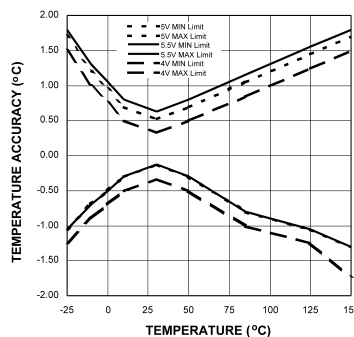
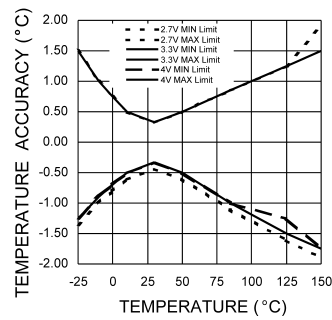

Figure 2. Accuracy vs Temperature with $+V_S = 5V$
Figure 3. Accuracy vs Temperature with $+V_S = 3.3V$
- (1) Typical values are at $T_A = 25^\circ C$ and represent most likely parametric norm.
- (2) Limits are guaranteed to TI's AOQL (Average Outgoing Quality Level).
- (3) The limits found in Table 1 supersede the limits shown in the Electrical Characteristics Table. The Accuracy specification includes errors due to linearity, offset and gain. The accuracy specification includes effects of self heating with negligible digital output loading. Pull-up resistors should be maximized (10k typical recommended), so that self heating due to digital output loading is negligible.
- (4) Limits at intermediate temperatures can be calculated using a straight line interpolation as shown in Figure 2 and Figure 3.
- (5) Linearity Error is defined as the worse case difference of an actual reading to that of a calculated reading derived from the straight line whose endpoints are measured at $30^\circ C$ and $125^\circ C$ for the range of $30^\circ C$ to $125^\circ C$ or whose endpoints are measured at $30^\circ C$ and $-25^\circ C$ for the range of $30^\circ C$ to -25° .
- (6) Offset Error calibration should be done at $30^\circ C$. The residual error of the transfer function is then equivalent to the Accuracy Limit minus the Offset Limit. This does not take into account the power supply sensitivity of the offset error. Nor, does it take into account the error introduced by the calibration system used.
- (7) This specification is provided only to indicate how often temperature data is updated. The LM92 can be read at any time without regard to conversion state (and will yield last conversion result). If a conversion is in process it will be interrupted and restarted after the end of the read.
- (8) 12 bits + sign, two's complement
- (9) Default values set at power up.